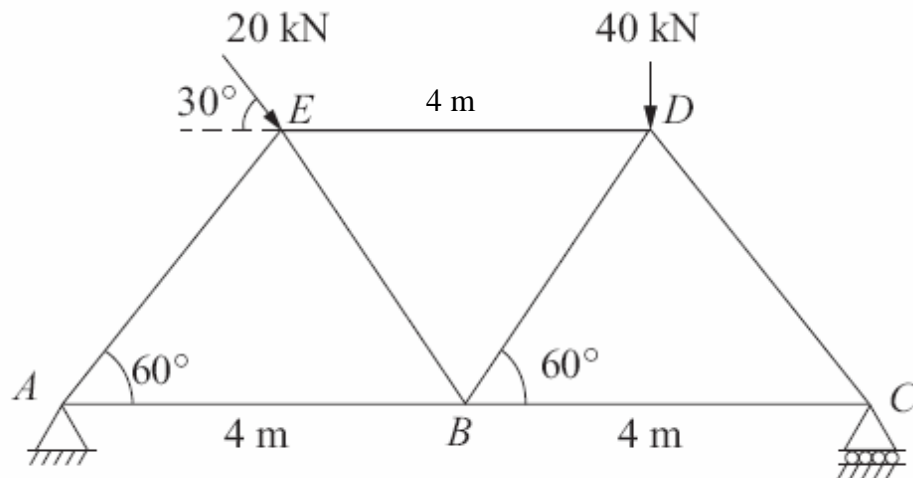

Fig.4
6. Determine the forces in the members of the truss shown in Fig.4. using Stiffness method. All the members have equal cross-sectional area of 1150 mm^2 . $E=210 \text{ GPa}$. [15]